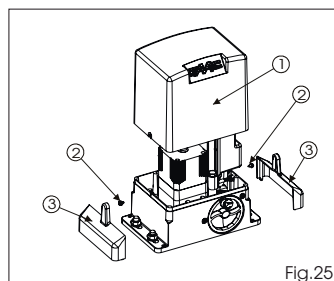

Fig.25
Return the board support to its original position. Fit the cover (Fig. 25 ref. 1), tighten the two side screws provided (Fig. 25 ref. 2) and snap-fit the side panels (Fig. 25 ref. 3).